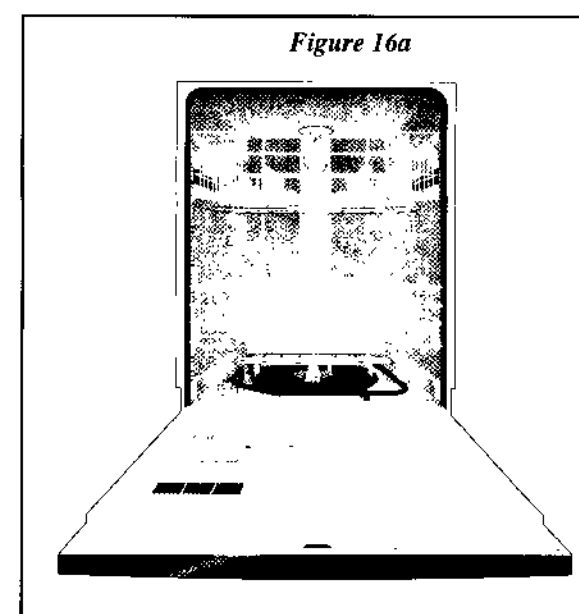

Figure 16a
1. Unlatch and open door. Using a Phillips head screwdriver, remove two (2) screws from inner door. Save screws to reassemble. See Figure 16a.